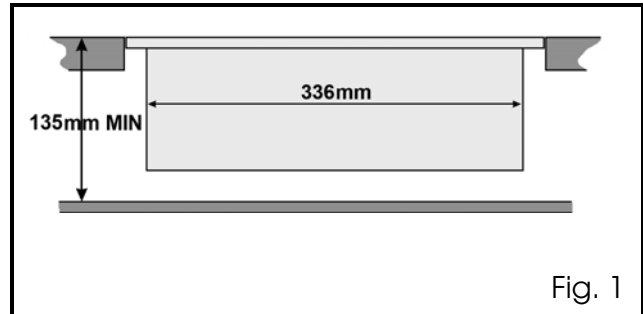
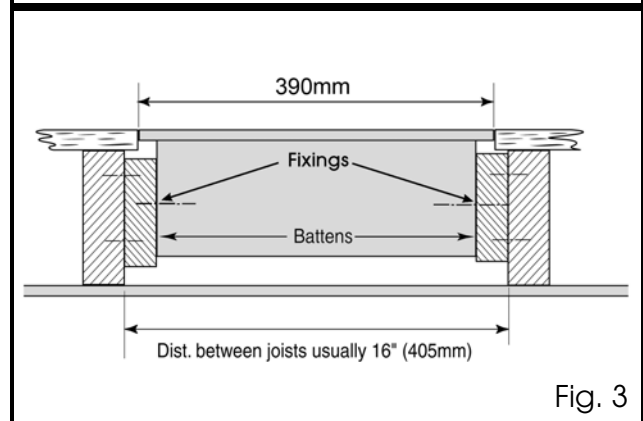

Fig. 1
Fig. 3
When locating the safe, and BEFORE cutting floorboards, ensure the measurement from the top surface of the floorboard to the floor below is at least 135mm, see Fig.1. This is to ensure the safe does not bottom out when fitted.
**NOTE:** Generally, floor joists are 16" (405mm) apart. The safe box is 336mm in length (see Fig.1). It is necessary therefore, to attach battens to the joists as shown in Fig.3, in order for the safe to be properly secured.